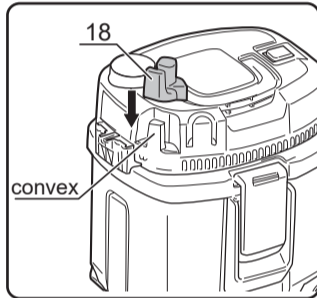

fig.8
- Insert the cord hook(18) into the convex of the top cover. (fig.8)